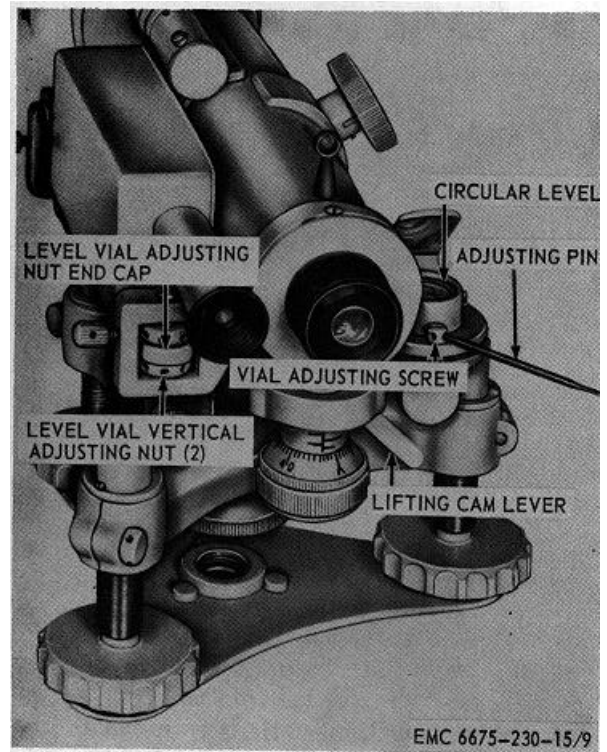
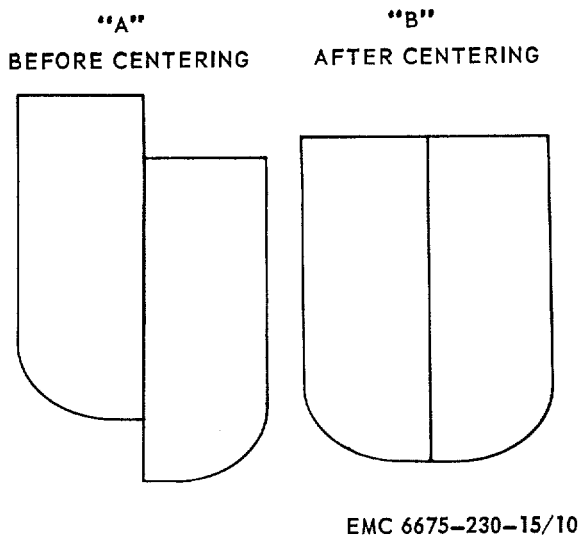

Figure 9. Circular level and level vial, adjustment.
Figure 10. Level vial, adjustment.
(c) If the bubble is not centered, it will be necessary to adjust the leveling screws to compensate for one-half of the leveling correction and the vial adjusting screws (fig. 9) for the remaining half.
(6) Adjust the level vial as follows:
- (a) Observe the level vial using the magnifying lens (fig. 1). The level vial will appear as depicted in figure 10.
- (b) If the level vial is out of adjustment and cannot be adjusted using the tilting screw, it will be necessary to adjust using the adjusting nuts (fig. 9). Insert the adjusting pin in the top nut and loosen the nut. Use the adjusting pin to adjust the upper or lower nut until the level appears centered as depicted in figure 10. Tighten the upper nut.